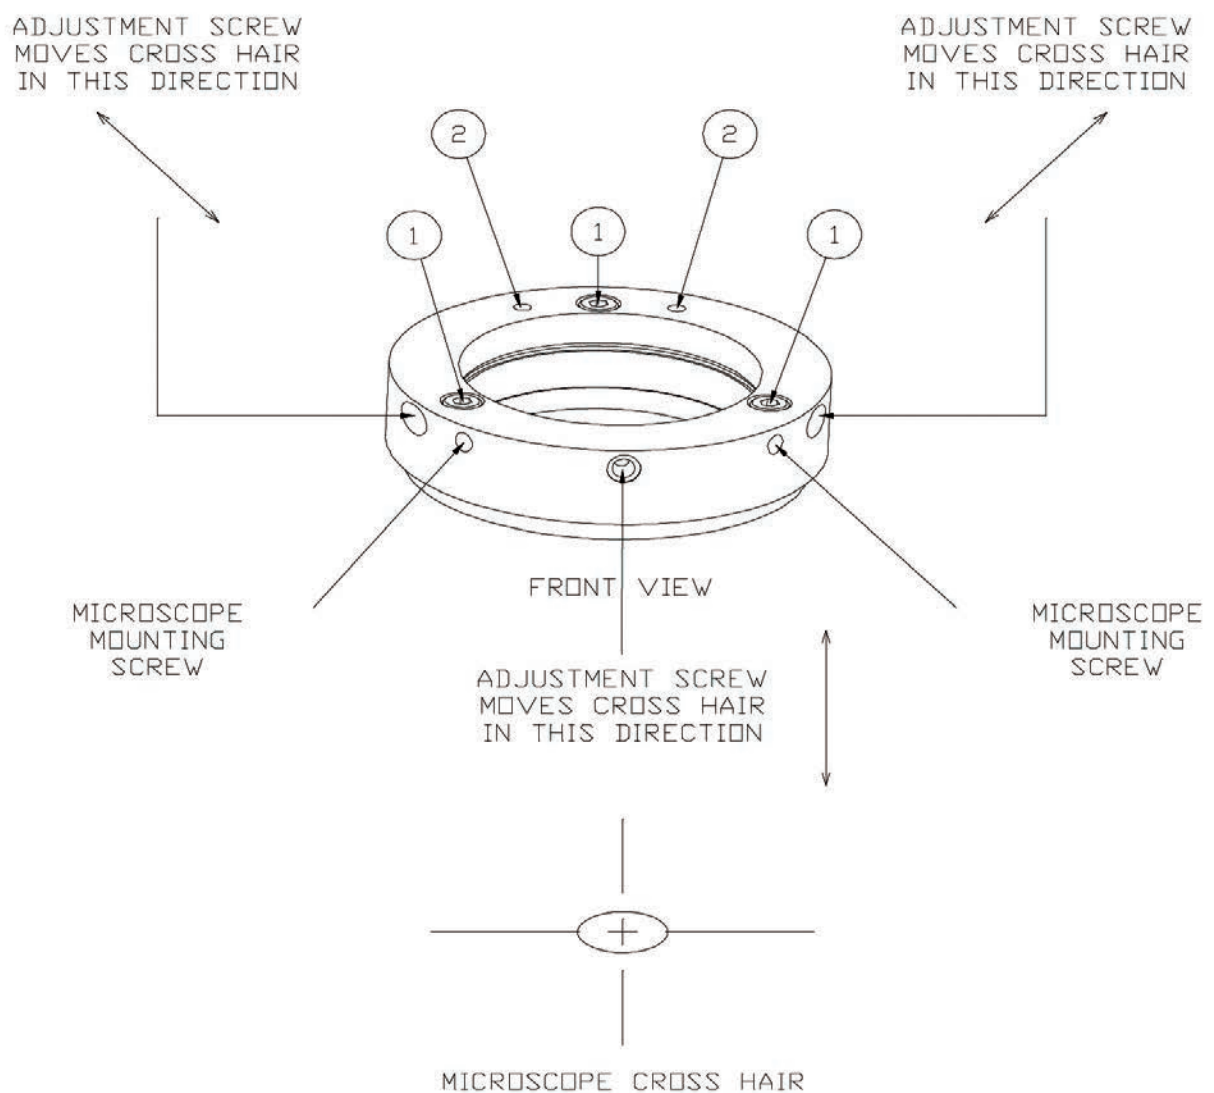

Figure 4
1. Place the stereo microscope into the mounting bracket. **(Figure 4)**
2. Secure the microscope to the body of the welder by tightening the two (2) mounting screws. The mounting screws are located between the center, left, and right adjustment screws (see the diagram on the next page for details and a visual reference).